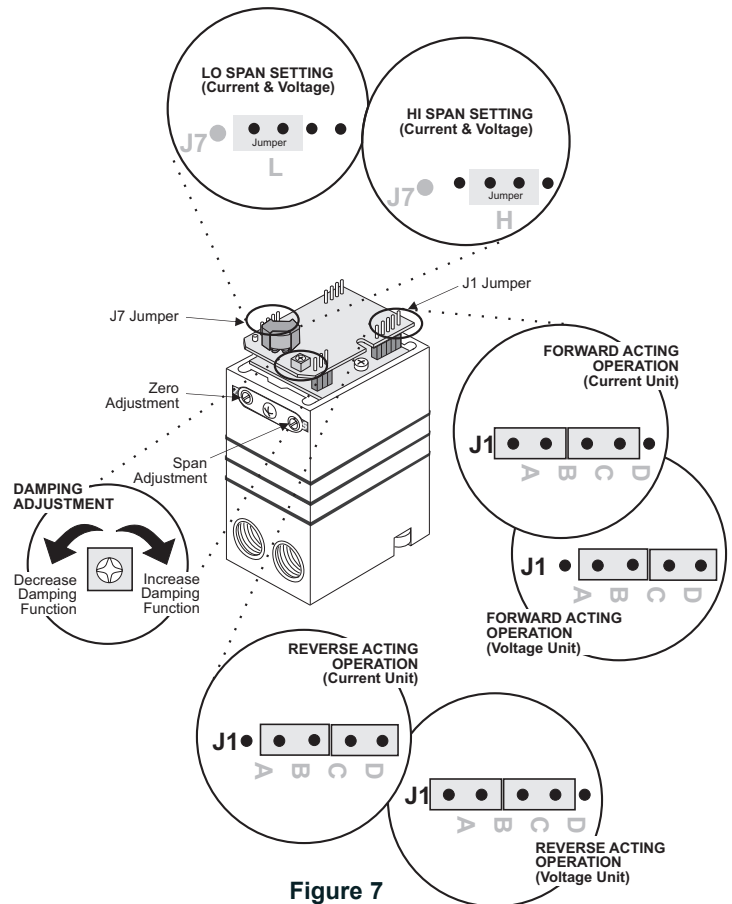

Figure 7
5. Set FWD/REV Mode jumpers to the Reverse position (see Figure 7).
(See Figure 7)